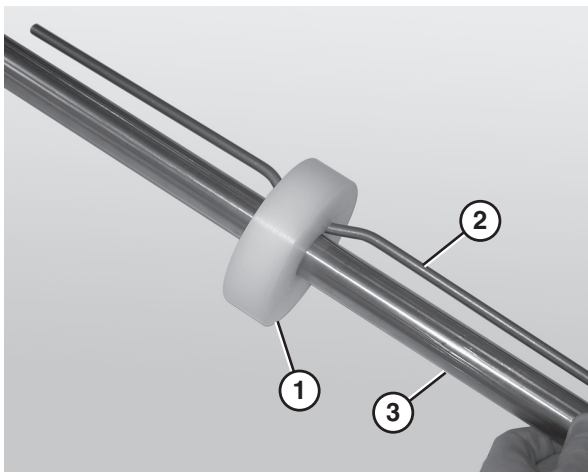

Figure 70
1. Place the idler puck (**Figure 70, item 1**) at the center of the bent retaining bar (**Figure 70, item 2**).
2. Slide the idler puck onto the idler shaft (**Figure 70, item 3**). Make sure to center the idler puck.